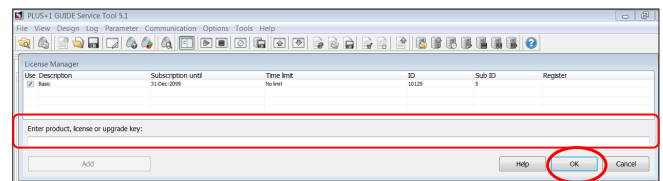

Figure 17. Entering License Key
- Input the license key obtained from Multiquip (Figure 17) and click "OK".